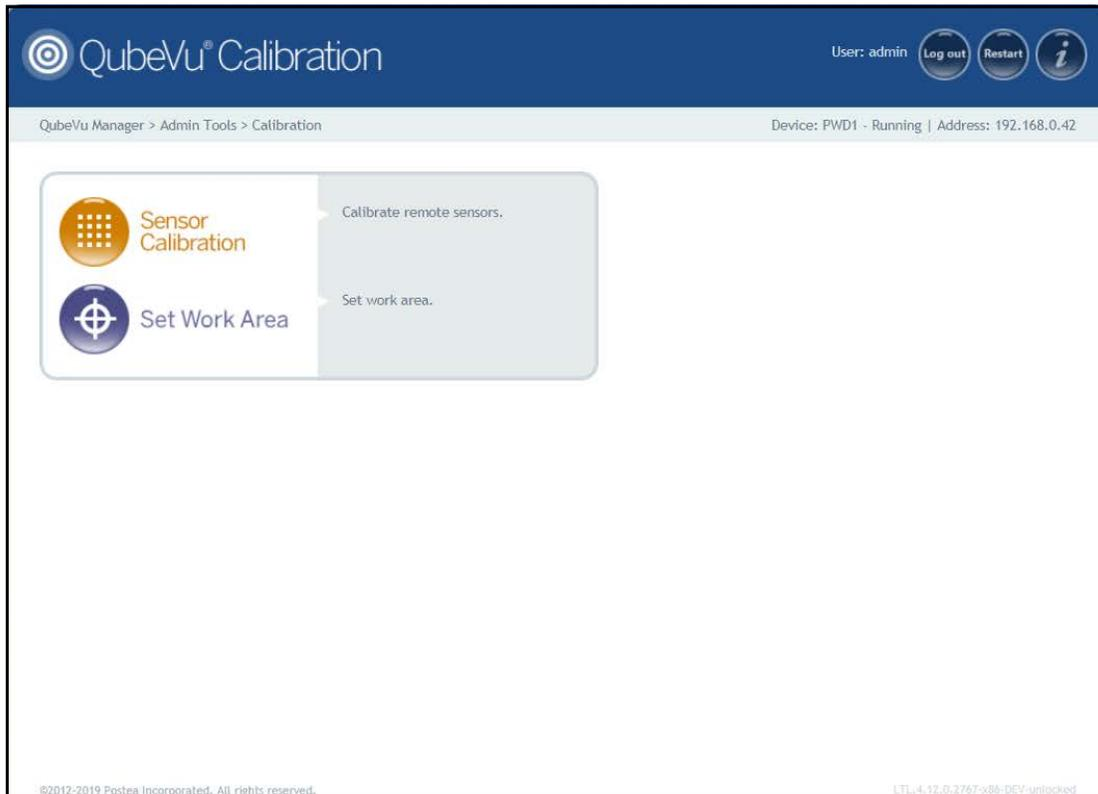

Figure 5-3. Calibration Menu
1. Press  from the **Calibration** menu (Figure 5-3 on page 17) to enter the **Remote Sensors Calibration** menu.
1. Press  **Set Work Area** from the **Calibration** menu (Figure 5-3 on page 17) to enter the **Set Work Area** menu.